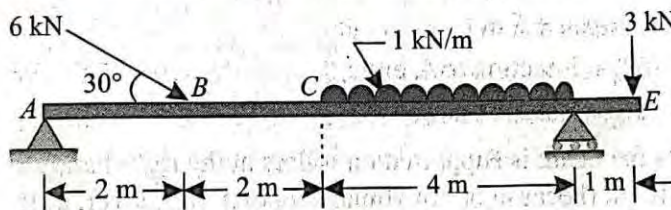

Fig. 9.16.
6. A beam  $ABCDE$  hinged at  $A$  and supported on rollers at  $D$ , is loaded as shown in Fig. 9.16.